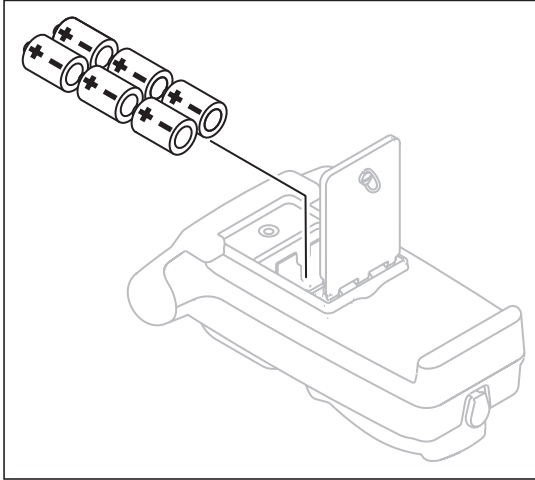

Fig. 8: Changing the batteries in the **UT 830 T** generator – battery polarity
You will find an overview with the names of the generator controls inside the front cover (Fig. 8).
3. Insert new batteries. Ensure correct polarity (Fig. 8).